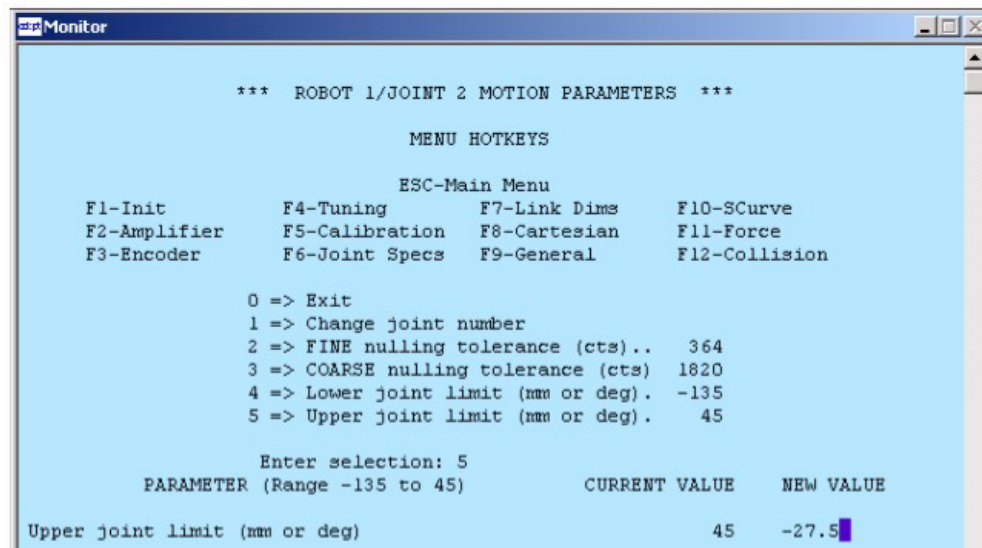

Figure 2-6. Joint 2 Menu - Upper Limits
7. Select option 5=> Upper joint limit. See Figure 2-6.